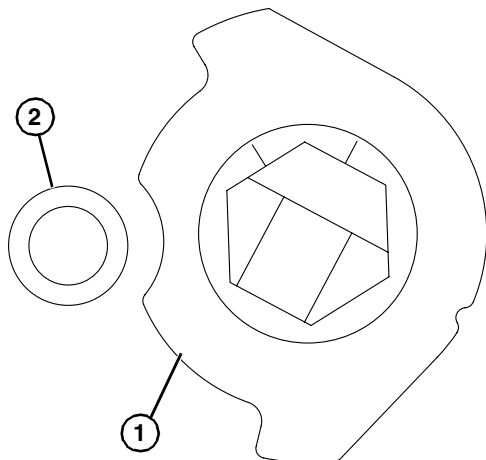

Figure 19
- Hex shaft assembly will need to be rotated (**Figure 19**) for stop keys (**Figure 19, item 1**) to pass by the frame stops (**Figure 19, item 2**).